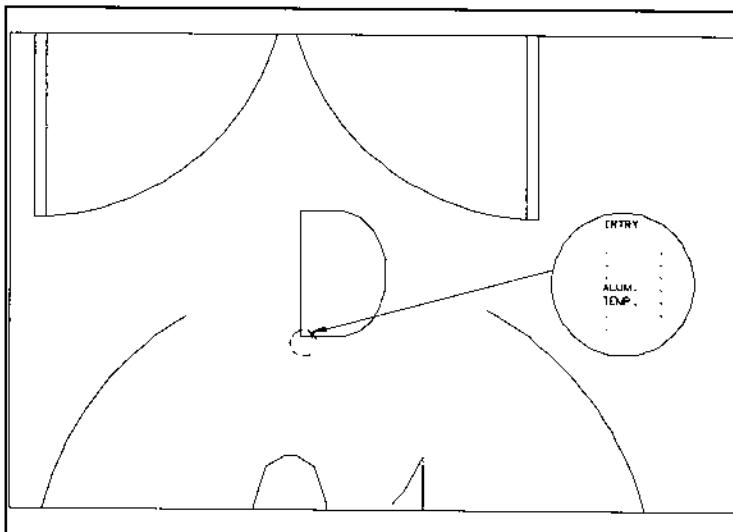

Figure 11.
2. A magnified view of the dot is shown in Figure 11.